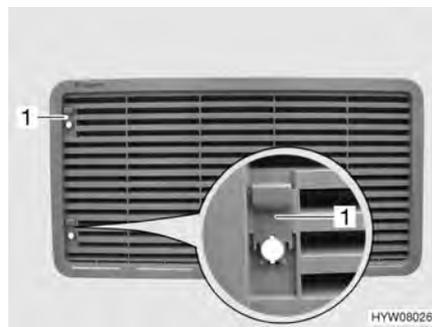

Fig. 138 Refrigerator ventilation grill (with sliding trap)
- Push sliding trap (Fig. 138,1) upward.